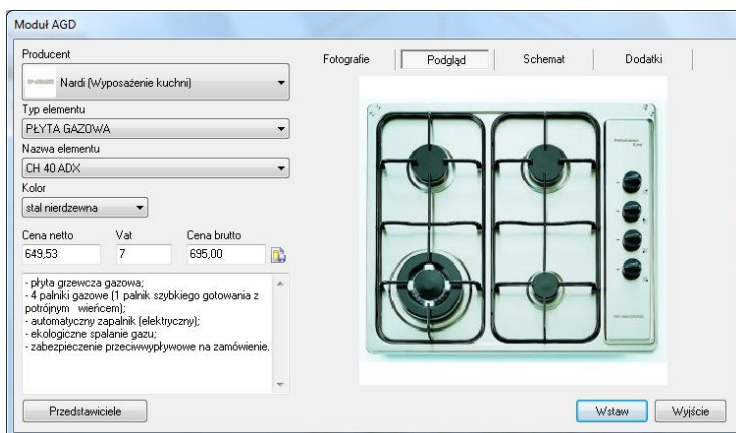

Fig. 246 – element's preview
- preview (allowing to view the model on a higher-resolution photo – Fig. 246);